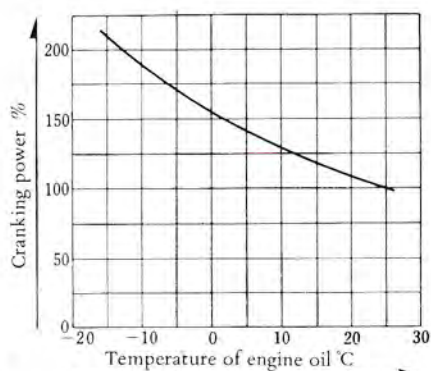

Fig. 14
- b. Stiff engine oil by cold adds to the load of starting. The following Fig. 14 shows the relation of cranking power at temperatures corresponding to "summer", "freezing" and "zero" for an engine using SAE 10W-30 multi-viscosity engine oil.